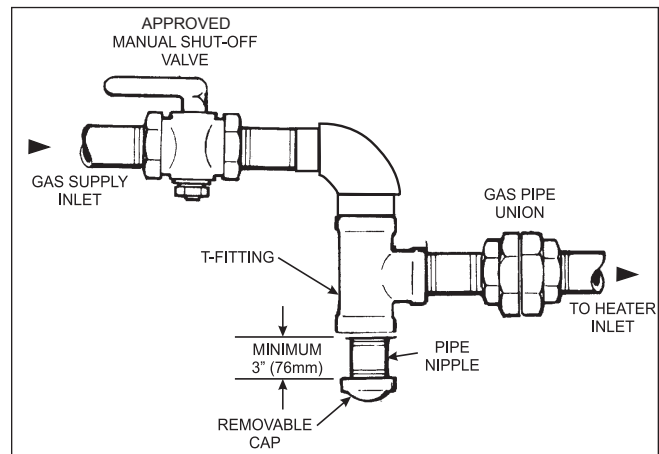

Figure 9. Proper Design for a Sediment Trap/Drip Leg
4. Install a sediment trap (drip leg) ahead of the gas controls. See Figure 9. Fit the trap with a threaded cap which can be removed for cleaning.